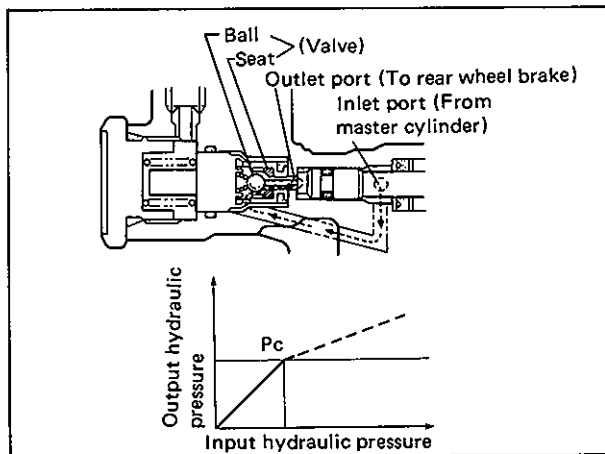

Fig. 5-20-3
1) Operation from the inoperative state till the input hydraulic pressure (fluid pressure from the master cylinder) reaches the bend point P_c in the graph as shown in Fig. 5-20-3: